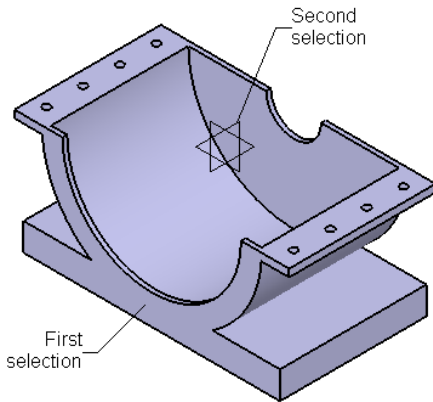

Figure 11-65 First and second elements to be selected
- c. Insert the Lower Housing into the assembly as the base component, set its orientation, and apply the **Fix** constraint to it at its default location, refer to Figures 11-65 through 11-67.
3. Choose the **Snap** button from the **Move** toolbar. Select the first element and the second element, as shown in Figure 11-65. The orientation of Lower Housing is changed and a flip arrow is displayed on it.